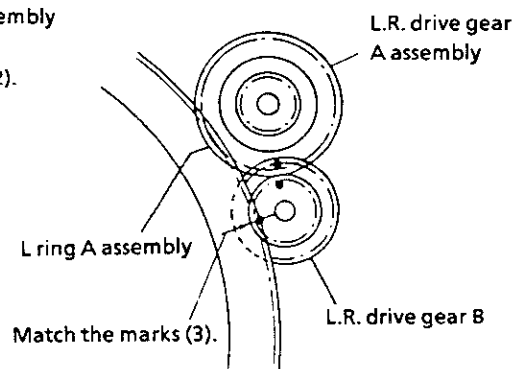

Figure. 2-18-b
- 6) Insert the loading gear. At this time, turn the double-acting gear against the double-acting SPR to fit the marks of double-acting gear and loading gear. (See Fig. 2-18-c)